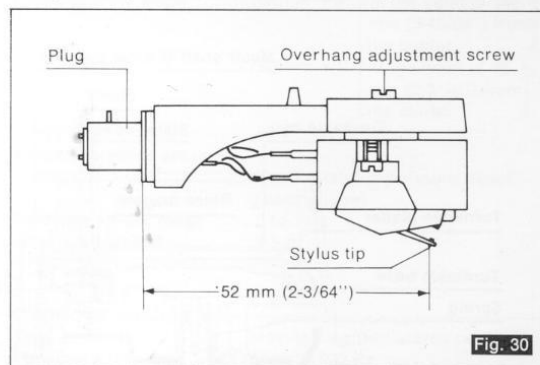

Fig. 30
3. Loosen overhang adjustment screw and move the cartridge forward or backward until the distance between the stylus tip and the plug becomes 52 mm (2-3/64") as shown in Fig. 30.